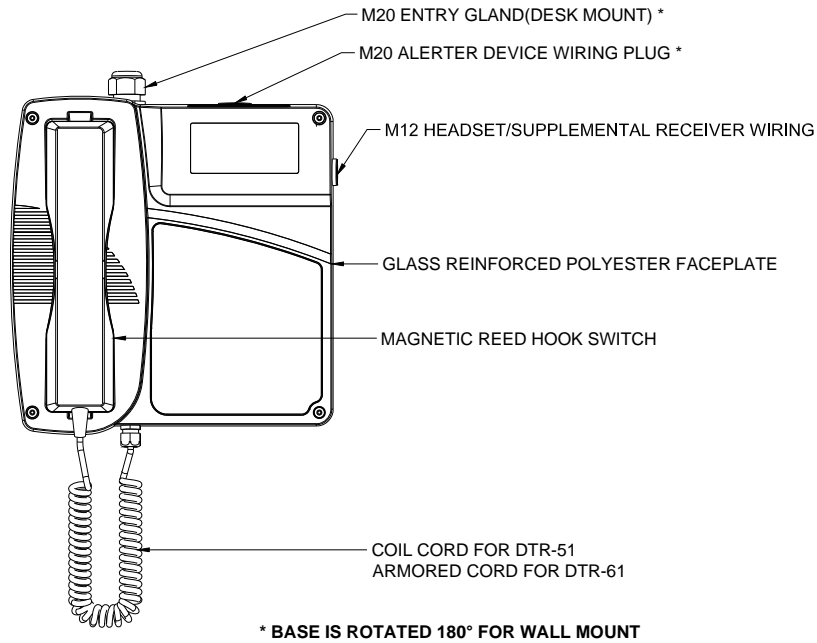
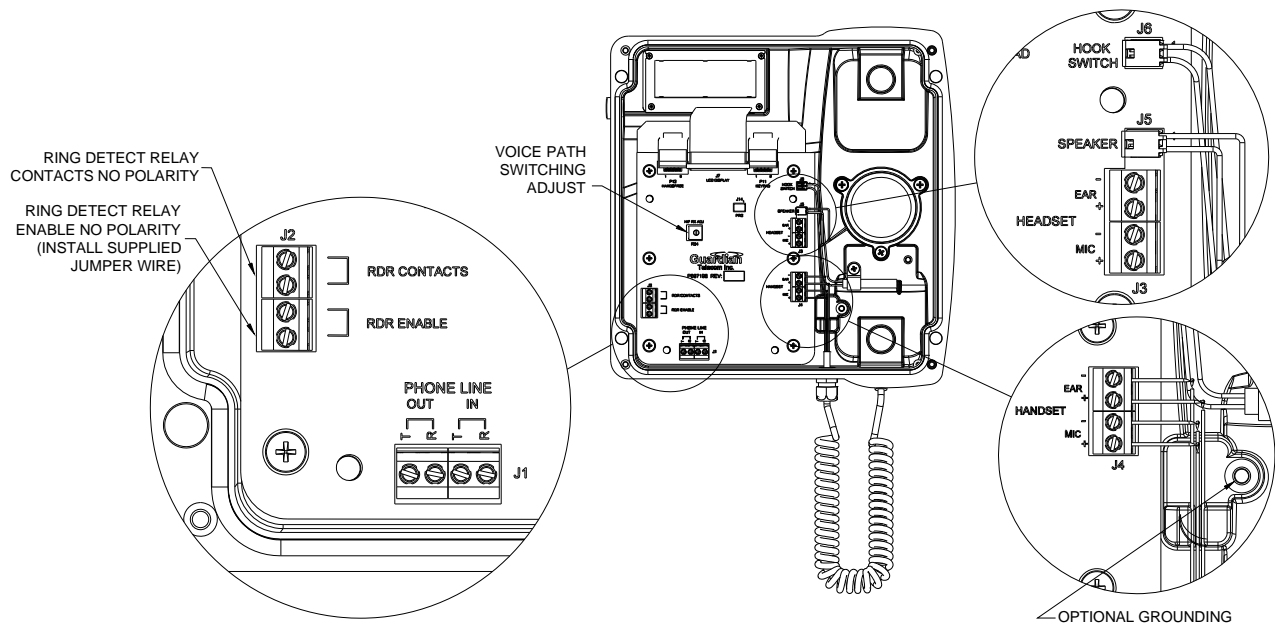

Figure 1 - Features
Figure 4 - Wiring
| Figure 1 - Features.....                      | 4 |
| Figure 4 - Wiring.....                        | 5 |
*See: Figure 4 - Wiring*
*See: Figure 1 - Features & Figure 4 - Wiring*
*See: Figure 1 - Features*